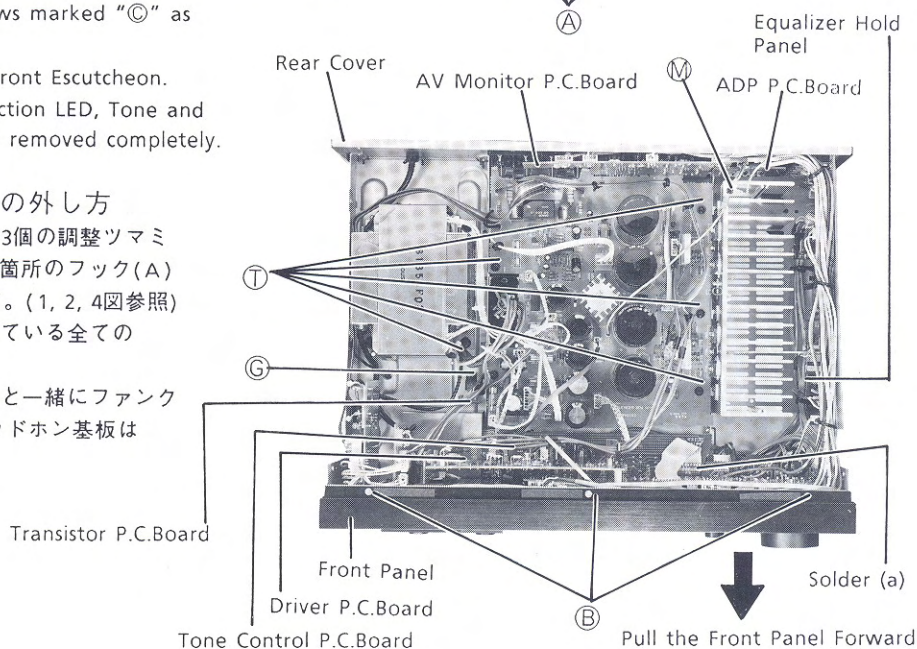

Figure 3
- (2) Remove three screws marked "Ⓑ" as shown in Figure 3.
- (3) The Front Panel can be removed by pulling it forward.
- (1) Remove a screw marked "Ⓞ" as shown in Figure 3.
(2) Disconnect all wires from the Transistor P. C. Board.